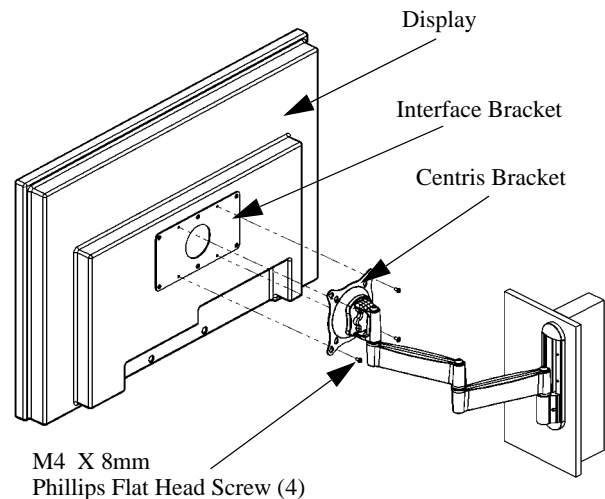

Figure 8. Attach Centris Bracket to Display
1. Start two M4 x 8mm Phillips pan head screws into top two mounting holes of interface bracket (see figure 8).